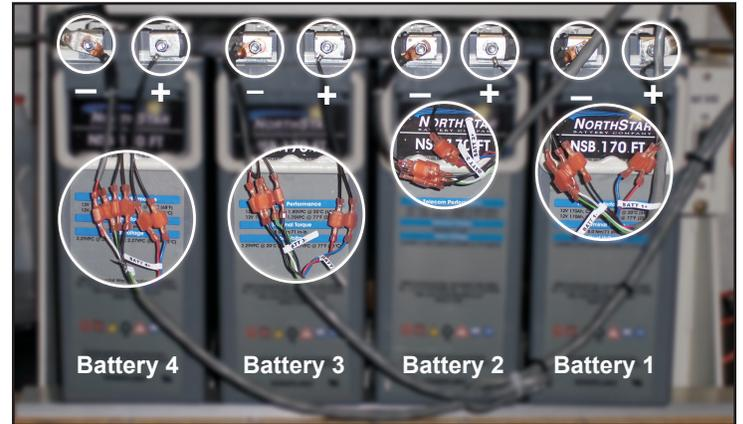

Figure 2
3. Attach the fuselinks connected to the red and blue wires in the cable harness labeled BATT 1 (+) to the positive (+) terminal on battery 1. (Figure 2)